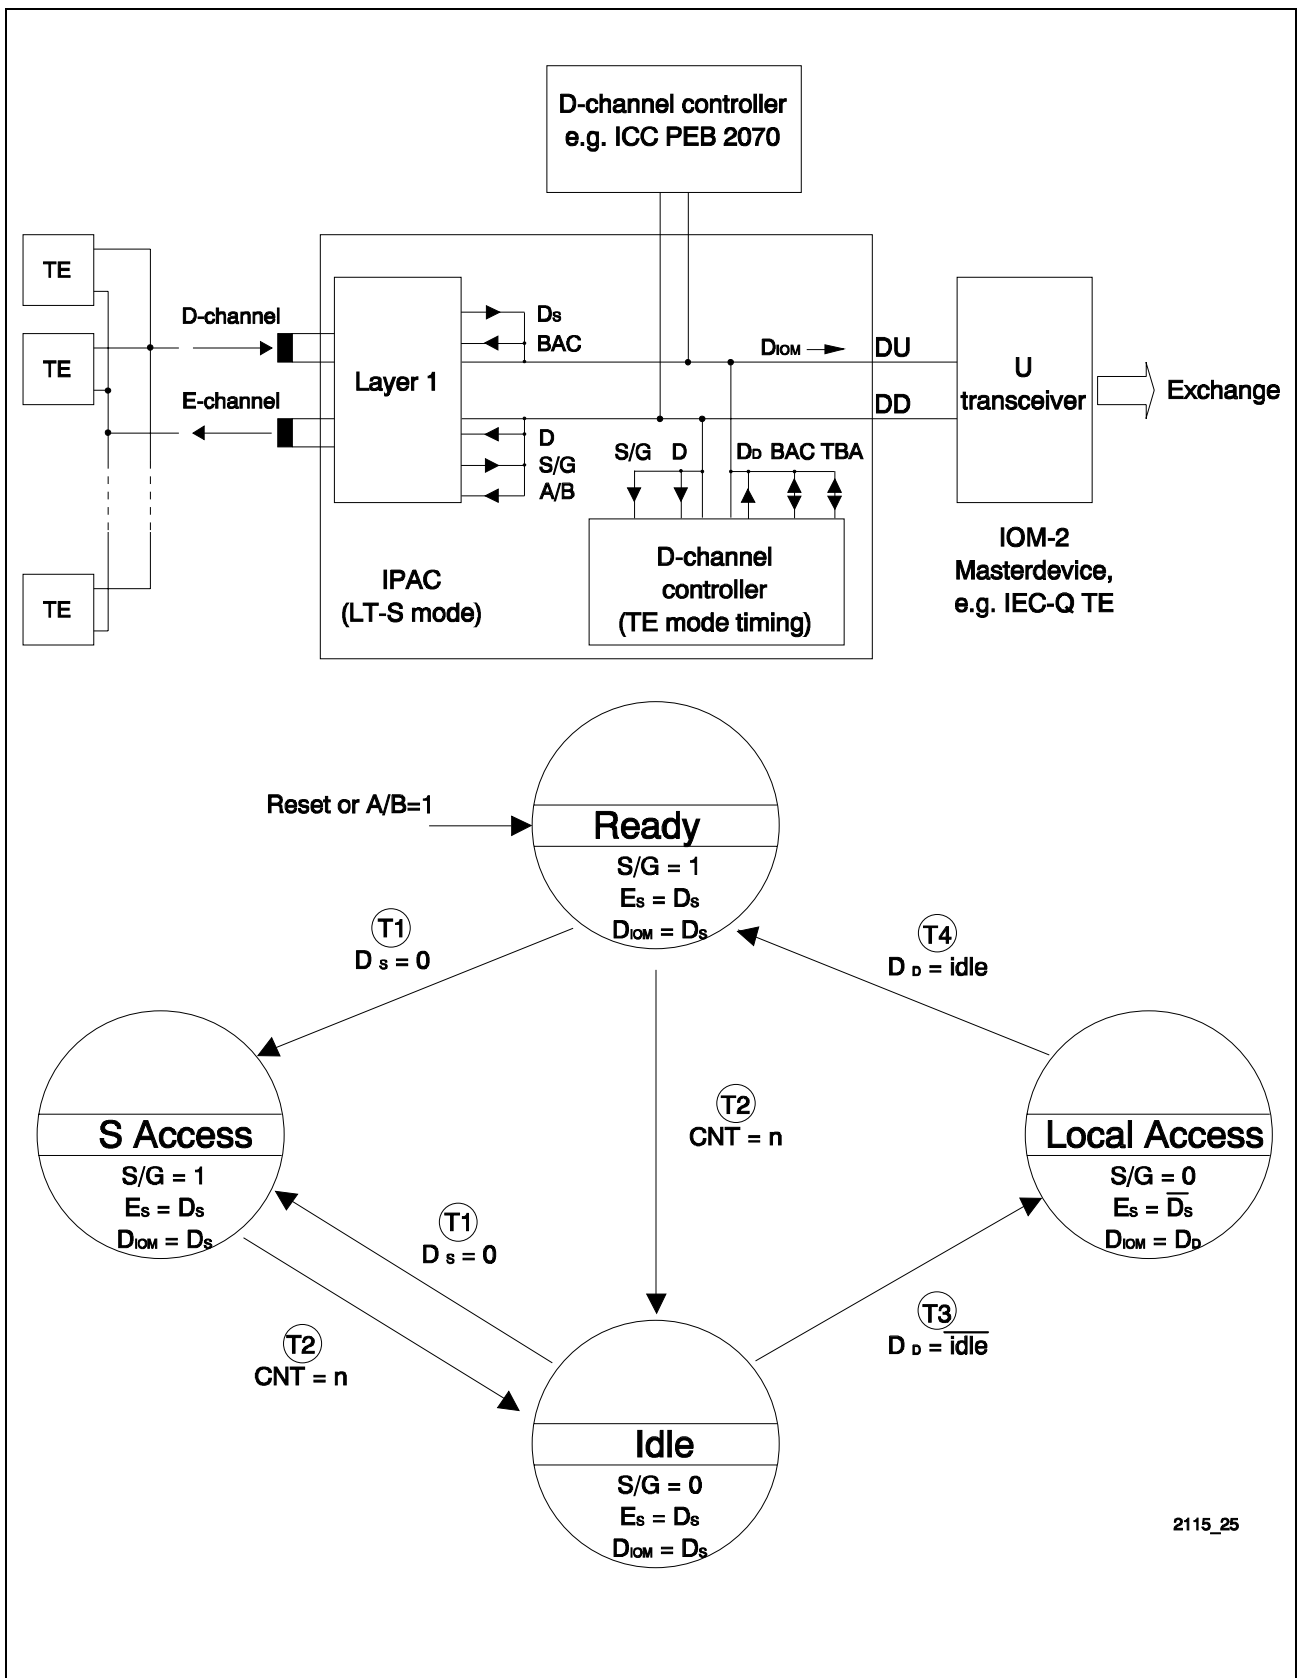

Figure 19 Data Flow for Collision Resolution Procedure in Intelligent NT
**Figure 19** illustrates the signal flow in an intelligent NT and the algorithm of the D-channel priority handler on IOM-2 implemented in the IPAC.